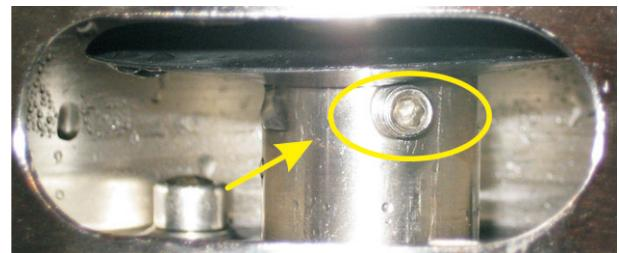
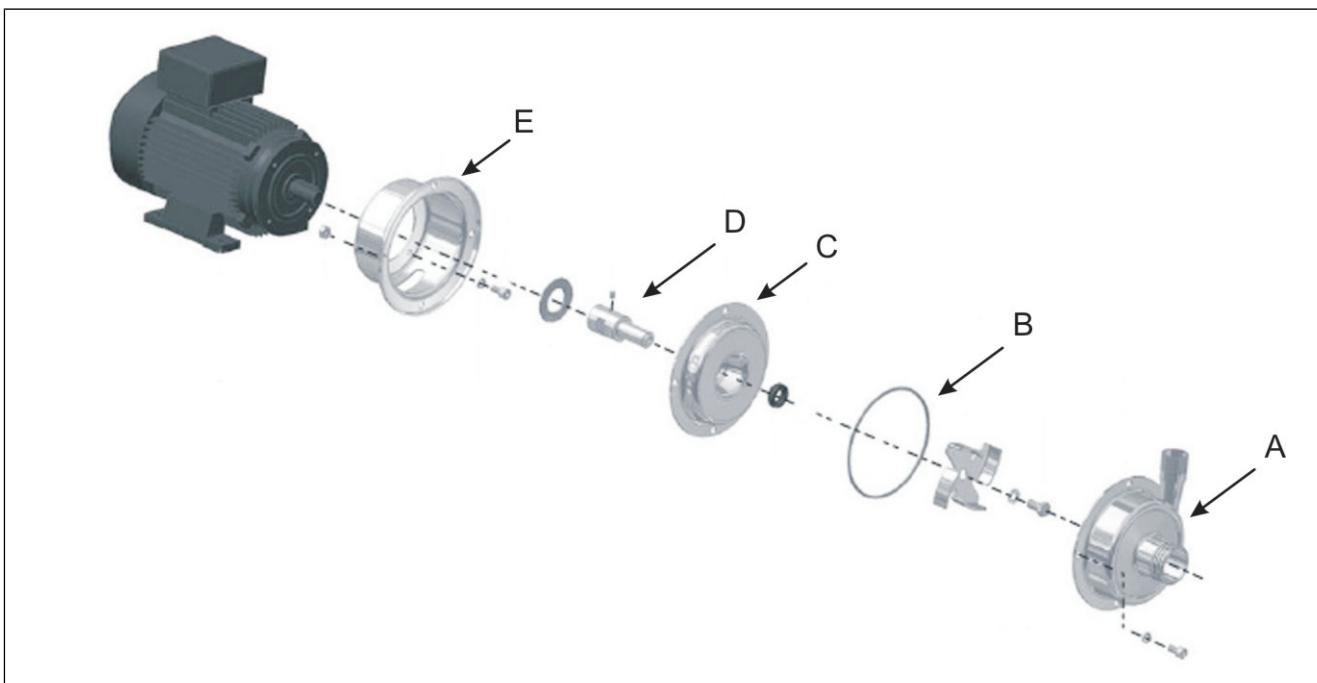

Fig. 31. Adjusting the shaft sleeve.
Fig. 32. Parts of Tapflo pump: A. Cover, B. O-ring, C. Ring, D. Shaft sleeve, E. Back cover.
3. Loosen the Allen screw that locks the shaft sleeve (Fig. 31, part 1) through the opening below the back cover (Fig. 32, part E). Use a 3mm Allen key.
4. Push the sleeve (Fig. 32, part D) deeper on the motor shaft, so that the impeller is as close to the cover as possible.